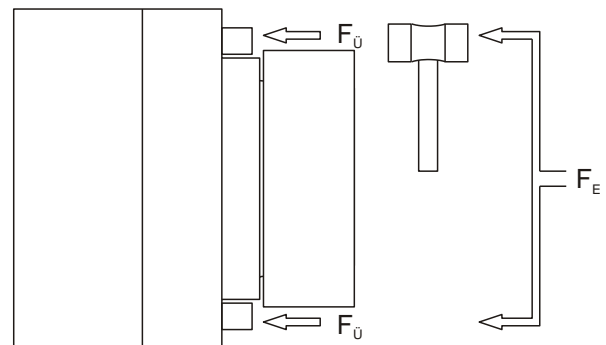

Fig. 4
- ☐ Manually, using a suitable tool (Fig. 4).